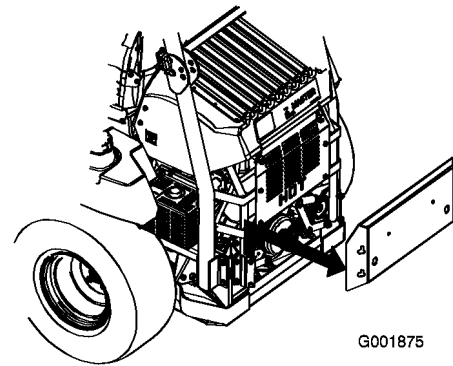

Figure 56
3. Remove the rear engine panel (Figure 56).